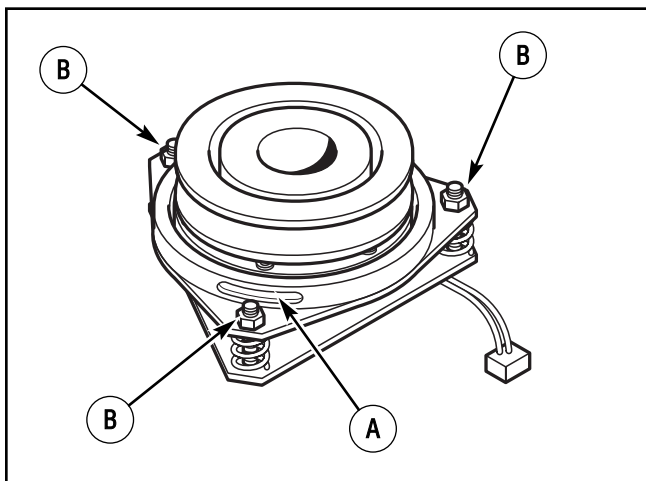

Figure 22: PTO clutch
2. Note the position of the 3 adjustment windows (A, Figures 22 & 23) in the side of the brake plate and the nylock adjustment nuts (B).